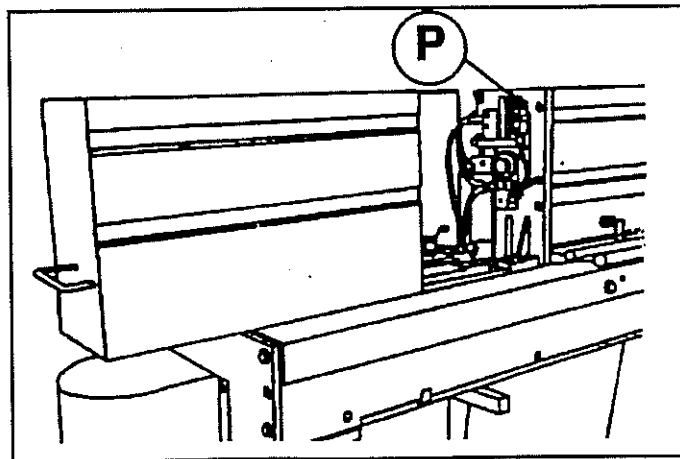

Fig.2.24
Check emergency devices (P) placed inside the protection covers (fig.2.24- 2.25)